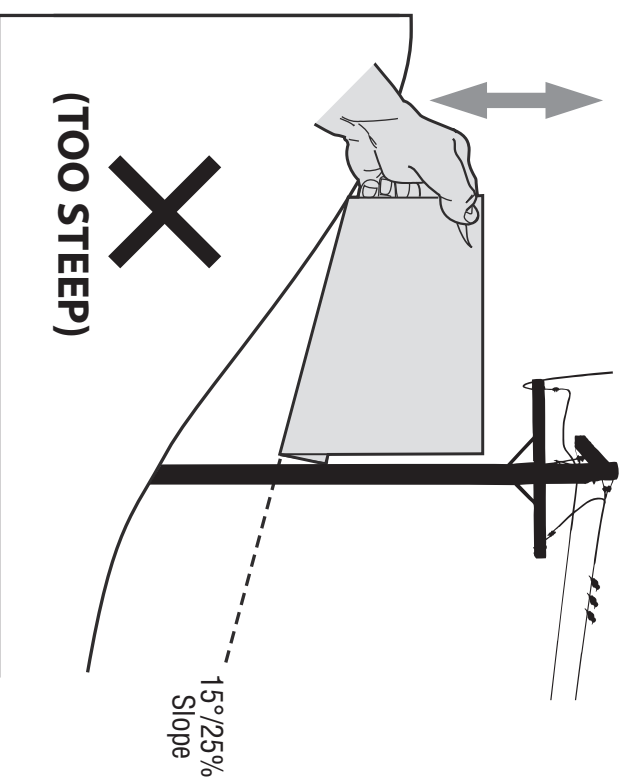

Figure 2
3. Align either side of the slope gauge with the object (See Figure 1 and Figure 2).
4. Adjust gauge up or down until the left corner touches the slope (See Figure 1 and Figure 2).